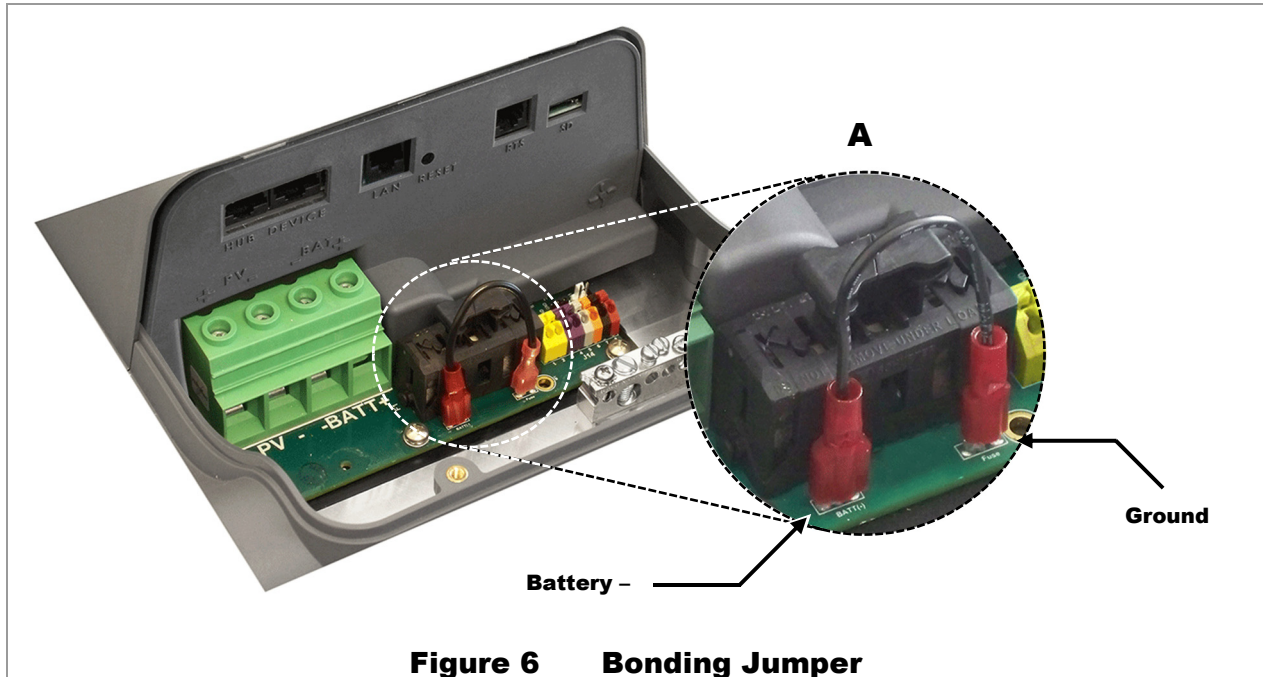

Figure 6 Bonding Jumper
The FLEXmax 100 uses a jumper wire to create a functional ground for one conductor. Connecting this wire completes a mechanical connection (bond) between one battery conductor and the ground. The default position creates a negative-to-ground bond, the most common configuration (item **A** in Figure 6).
- Remove the bonding jumper wire (item **A** in Figure 6).
If alternate PV system grounding configurations or GFDI methods are required, remove the ground bonding jumper wire from all FLEXmax 100 controllers. (See Figure 6 and the **Ground Bonding** section.) Do not remove the GFDI fuses from any controllers. Once the bonding wire has been removed, the external ground fault device can be installed according to its own instructions.